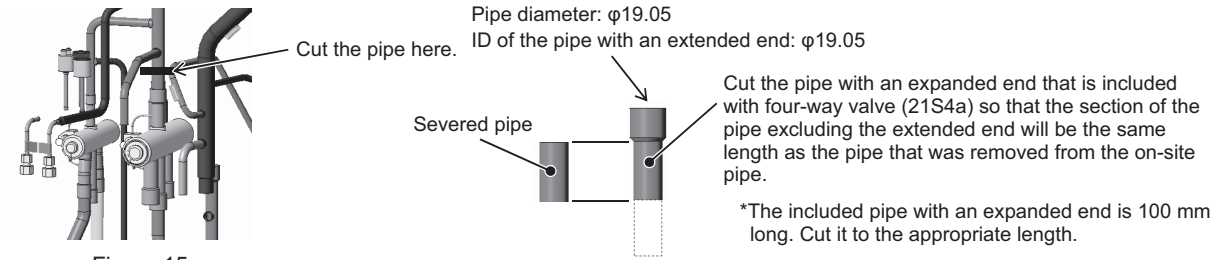

Figure 15
- (15A) To make it easier to connect four-way valve (21S4a), cut the pipe end below the raised hole (cut off the section covered with brazing filler) on the pipe with a pipe cutter. Cut the pipe with an expanded end that is included with four-way valve (21S4a) to the same length as the pipe that was removed from the on-site pipe. (See Figure 15.)